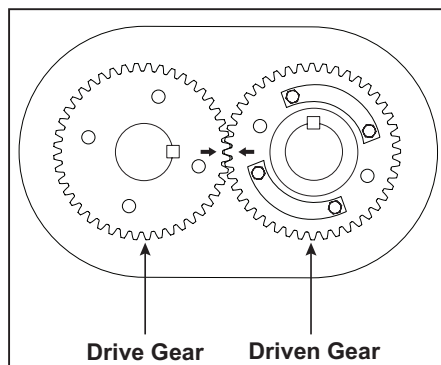
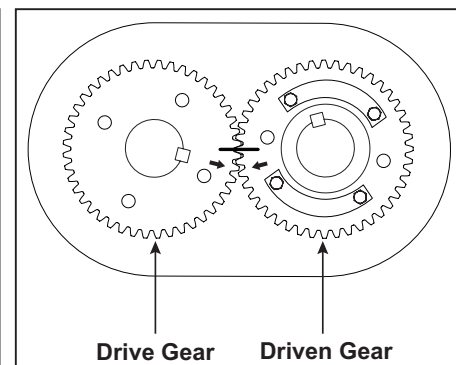

Figure 12 - Timing Marks Matched
Figure 13 - Timing Marks Advanced 3 Teeth (Reference Marks Aligned)
6. **On 64/67 series blowers**, remove mating ring of mechanical seal (54).
8. Bend back lock tabs and remove cap screws (29), lock (59), washers (25) and spring pins (68).
9. Position timing gears (8) so both timing marks are matched. See Figure 12. Rotate drive gear clockwise approximately three teeth and mark a matching reference line on each gear as shown in Figure 13. This gear position is necessary so rotors will clear and not jam. Using a gear puller with a live center or a centering adapter, large enough so it will not jam into threaded hole, pull driven gear, while keeping matched reference line marks aligned. Use a slight rocking motion to insure rotors have not jammed. Should jamming occur, release pressure and tap gear back on until it rotates freely. Pull mating gear.